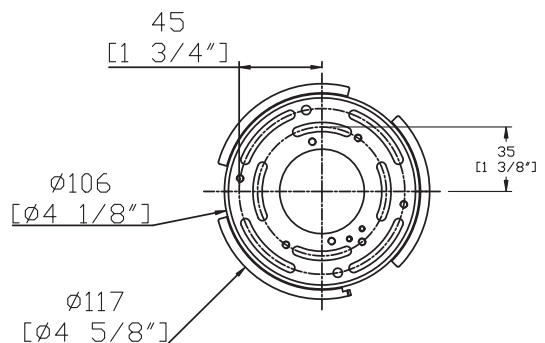

Fig.2 Wiring
CONNECTING THE WIRES (Fig. 2)
6. Connect the driver's input wires to junction box wires as shown in Fig. 2, make sure that all wire connectors (A) are secured. If your outlet box has a green or bare copper ground wire, connect the fixture's ground wire to it. Otherwise, connect the fixture's ground wire directly to the back plate using the green screw provided. After wires are connected, tuck them carefully inside the junction box.